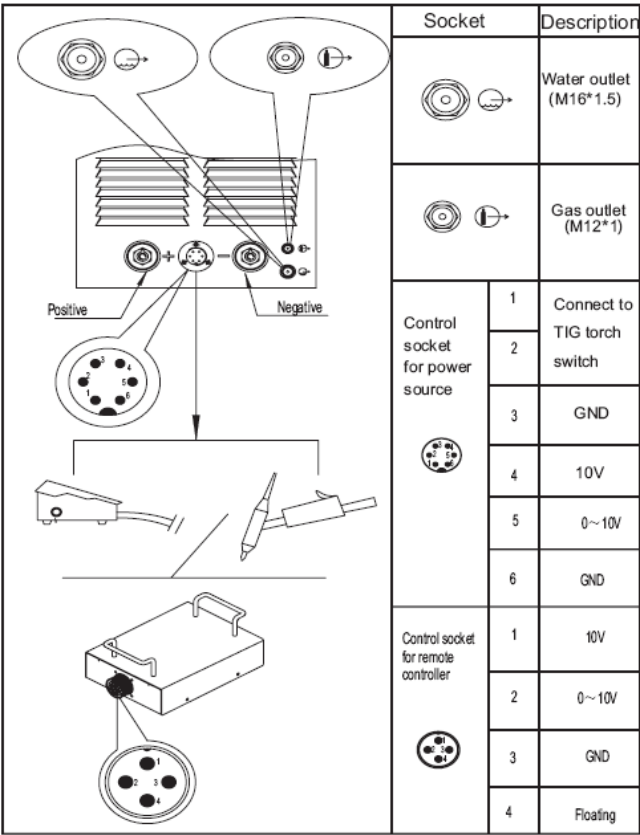

Fig. 4-4-1: Interface on front panel
• Interface on front panel (Fig. 4-4-1):